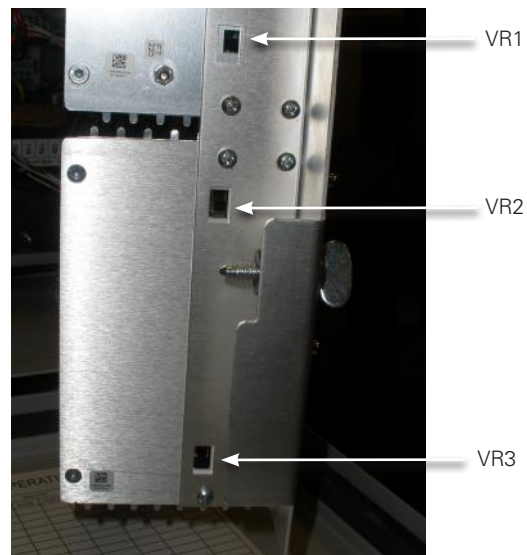

Figure 15. Multi-phase Neutral light source switches.
13. On the left side of the CL-7 multi-phase control panel are three recessed switches (Figure 15). Make sure the switches are placed in the upward positions for most applications. If the neutral lights stays on all the time for any voltage regulator or does not come on at all, place the switch in the opposite position. The top switch is identified as VR1, the middle one is VR2, and the bottom one is VR3.